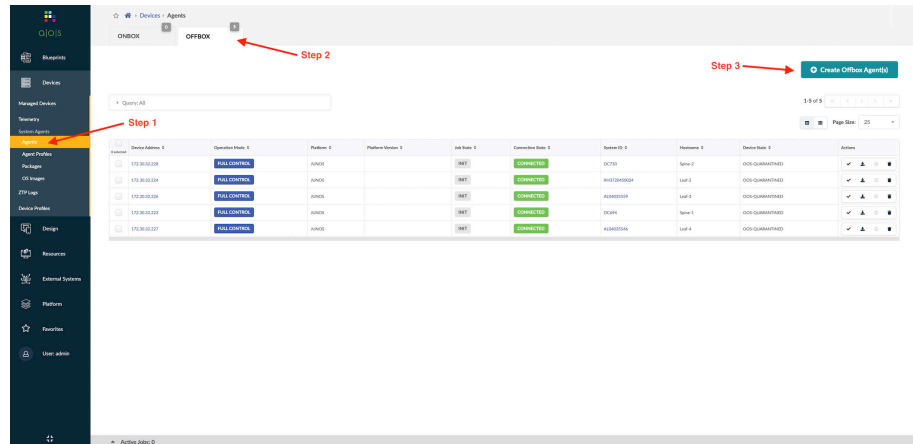

Figure 3.15 Creating an Off-box Agent in Apstra
Step 1: Navigate to Devices > Agents. See Figure 3.15.